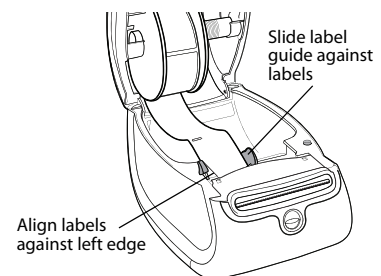

Figure 4
- The labels must be loaded with the left edge of the label inserted against the left edge of the label feed slot. See Figure 4.
- 7 Align the left edge of the label with the left edge of the label feed slot and insert the label into the slot. See Figure 4.
- 8 **(450, 450 Turbo, and Twin Turbo Only)** Slide the label guide to the left until the label guide aligns with the right edge of the label. See Figure 4.